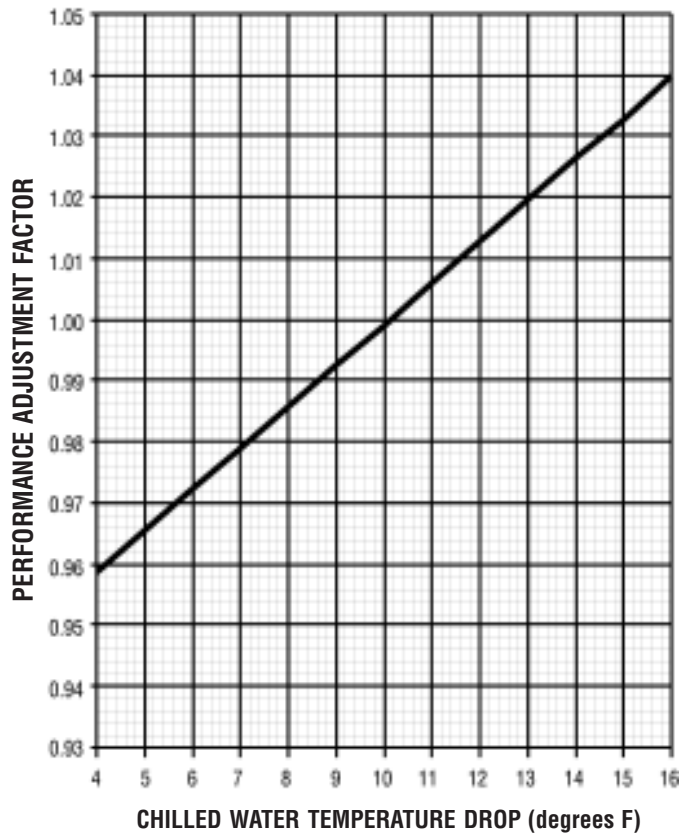

Figure 1. Performance Adjustment Factor
Capacity tables are based on a 10°F temperature drop through the evaporator and a capacity of 80 Tons at all chilled and condenser water temperatures. The module is optimized to provide 80 tons at the maximum efficiency. If the system load is less than 80 Tons, the chiller will unload to provide the smaller required capacity at a theoretically higher efficiency. For other than 10°F temperature drop, apply the respective performance adjustment factors from Figure 1 to determine the theoretical improvements resulting from a broader temperature difference.
1. Use Figure 1 adjustment factor for tons to convert tons to 10°F at equivalent for use with capacity tables.
4. At 12°F evaporator temperature drop, applying Figure 1 performance adjustment factors result in: